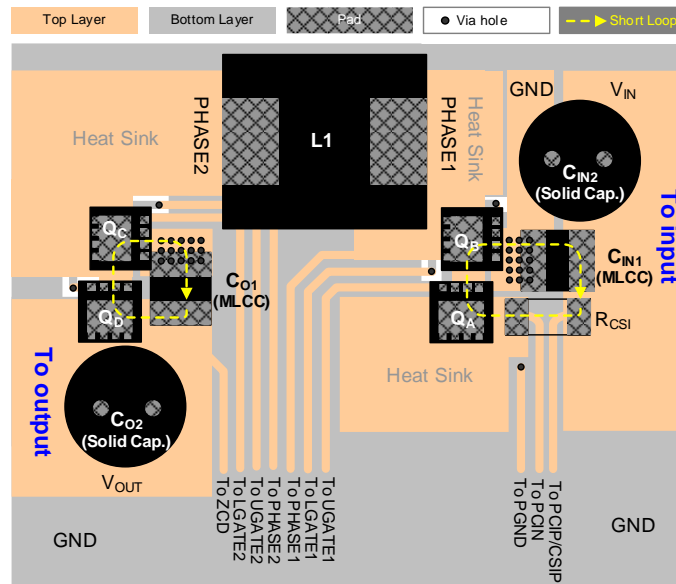

Figure 6. Recommended PCB Layout of the Power Stage
► Figure 6 is a recommended placement of the PWM Buck-Boost power-stage. Two critical loops “from $C_{IN1} \rightarrow R_{CS1} \rightarrow Q_A \rightarrow Q_B$ to C_{IN1} ” and “from $C_{O1} \rightarrow Q_D \rightarrow Q_C$ to C_{O1} ” must be as short as possible to minimize the switching noise at PCIP/CSIP, PCIN, PHASE1, PHASE2 and ZCD pins. The shorter paths also help to reduce radiated EMI. It is necessary to use an MLCC ($10\mu\text{F}/50\text{V}$, X5R/X7R) for the input capacitor (C_{IN1}) and output capacitor (C_{O1}). For reducing the input and output voltage ripples during heavy load operation, it is recommended to add more MLCCs or solid input and output capacitors. Moreover, to improve heat dissipation, one needs to increase the PCB areas for Drains of high-side and low-side MOSFETs.